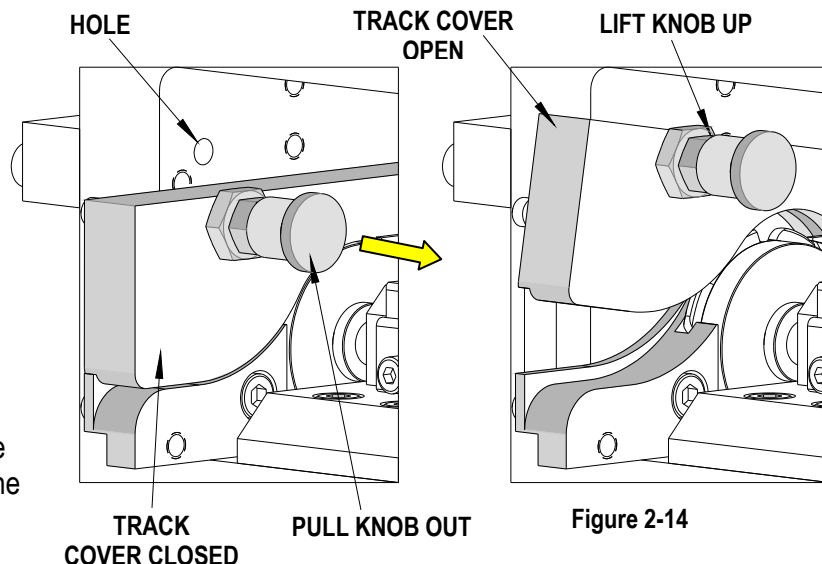

Figure 2-14
4. Open the tape track cover by pulling out the spring-loaded knob and lifting the cover up. A hole is provided in the module frame for the knob’s pin to enter to hold the track cover open. See Figure 2-14.